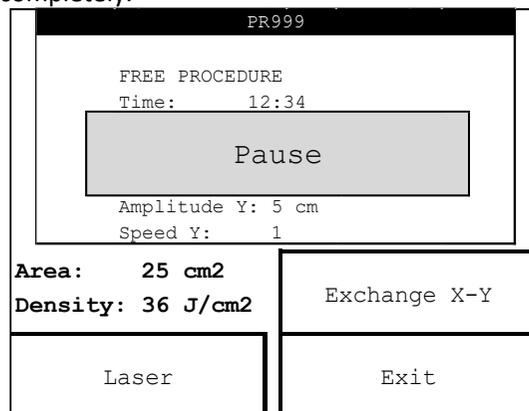

Fig.9
- when the STOP button is pressed: the emission cycle will go into Pause mode (Fig.9):